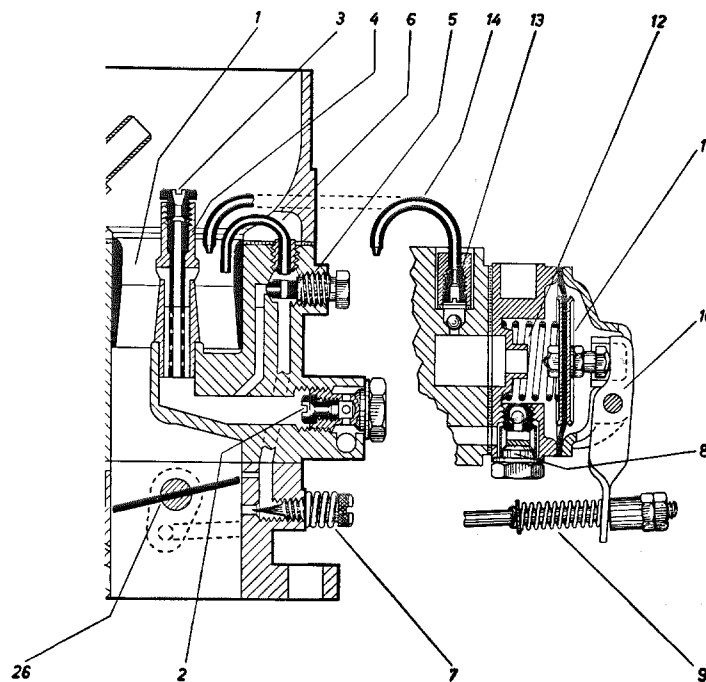

Fig. 07-0/19
During the injection the ball valve (8), which operates as a check valve, is closed. When the accelerator pedal is released, the diaphragm spring (12) presses the diaphragm (11) back. The ball valve (8) now operates as a through-way valve, whereas the ball valves below the bracket for the injection tubes (14) operate as check valves and prevent air from the carburetor suction canals from entering the pump system. (Fig. 07-0/19).